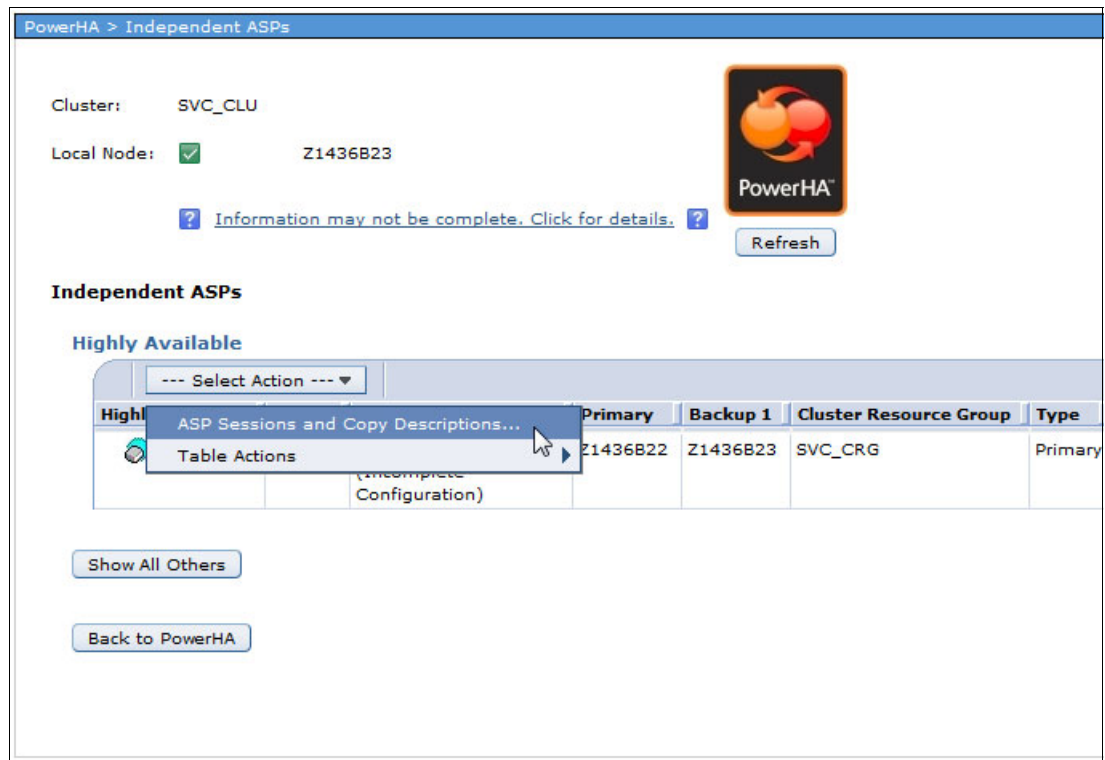

Figure 4-53 Three-node cluster: ASP session
15. In the PowerHA Independent ASPs window, add an ASP Copy Description for the IASP on the third node. Select **ASP Sessions and Copy Descriptions** from the Select Action pull-down menu, as shown in Figure 4-53.